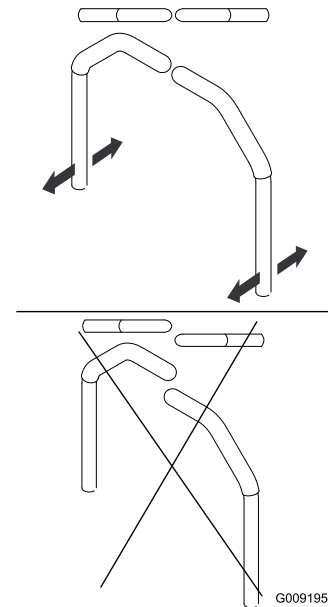

Figure 87
4. Align the front-to-rear position of the levers by bringing the front levers together to the neutral position and sliding them until they are aligned; then tighten the bolts (Figure 87).